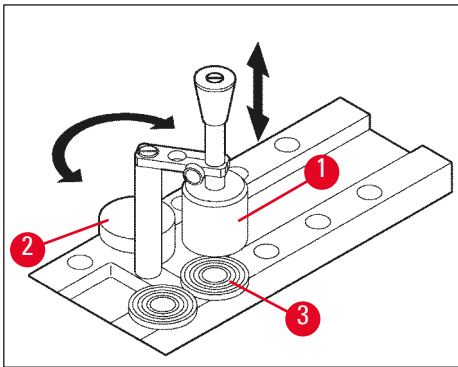

Fig. 14
4. Place specimen disc with specimen into one of the 10 openings in the quick-freeze shelf (→ "Fig. 14") and freeze.